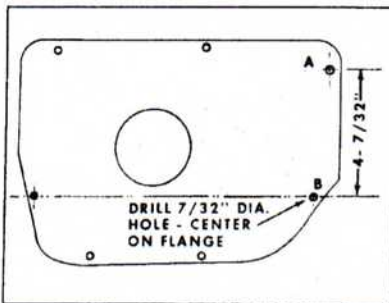

Fig. 1
1964 Tempests built before October 7, 1963, with a 3 or 4 speed synchro-mesh transmission and console, or a 4 speed floor shift, used a screw at "A" Fig. 1 to attach the transmission shift control cover to the floor pan. See Fig. 7-11, 1964 Tempest Chassis Shop Manual. However, this rearmost screw is located directly over the propeller shaft and under certain conditions the shaft can hit the screw resulting in a damaged propeller shaft.
3. Drill a 7/32" diameter hole on the center of the flange at "B" Fig. 1.